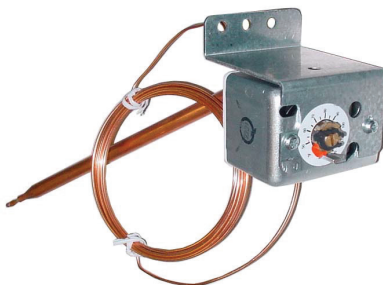

Figure 30. Unit-Mounted Ductstat
- **Ductstat with capillary tubing (option AG3):** The unit-mounted ductstat (see Figure 30) has an adjustable range of 0°F to 100°F (–17.8°C to 37.8°C) with a fixed differential of 3°F (1.7°C). The sensor is factory-set at 70°F (21.1°C). Due to different CFM settings and outside air temperatures, the average downstream outlet temperature may not match the ductstat setting exactly. After the installation is complete, adjust the setpoint of the ductstat to achieve the desired average outlet air temperature.